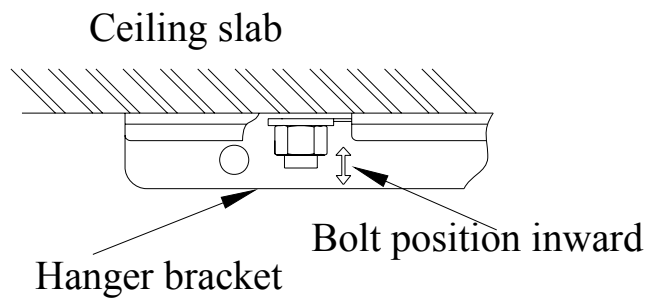

Fig. 11-7
1. Make sure that extended suspension bolts from the ceiling stay inside the arrowed position. Readjust the hanger bracket when it is outside the arrowed position. (See Fig. 11-7)